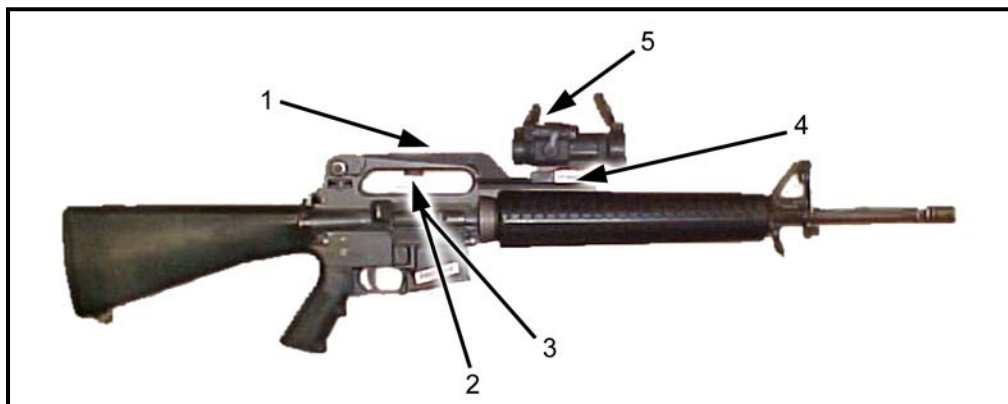

Figure 2-24. Mounting the M68 to the M16A1/A2/A3.
a. **M16A1/A2/A3 Rifle** (Figure 2-24, page 2-16). The M68 mounts on the M16 mounting bracket (1) that attaches to the carrying handle on the M16A1/A2/A3. The half-moon spacer should not be installed but, if installed, it will not hinder firing performance. Firmly hand-tighten the bracket (1), O-ring (2), and machine screw (3). Align the locking bar (4) under the M68 with the notch in the rail ensuring the rotary switch (5) is facing the firer. Tighten the torque-limiting knob (not shown here) until it clicks two times.